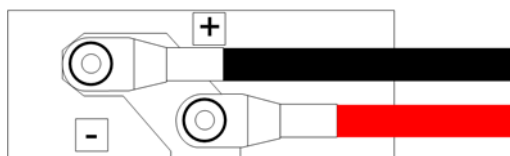

Figure 11.23 Mounting frame – DC voltage supply connectors (side view)
- Loosen the nut of the DC voltage supply cables using a size 4 wrench, refer to Figure 11.23.